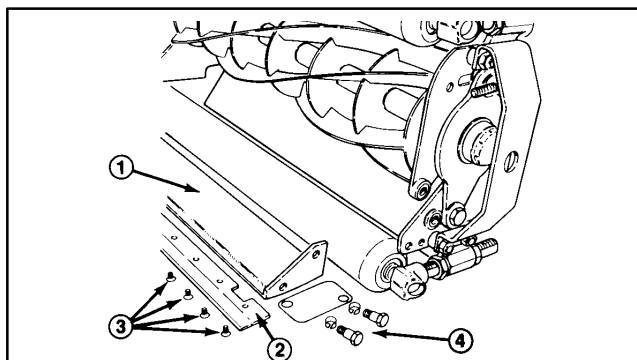

Figure 17
2. Remove mounting screws for the bedknife. Separate bedknife from the bedbar. Discard screws (Fig. 17).